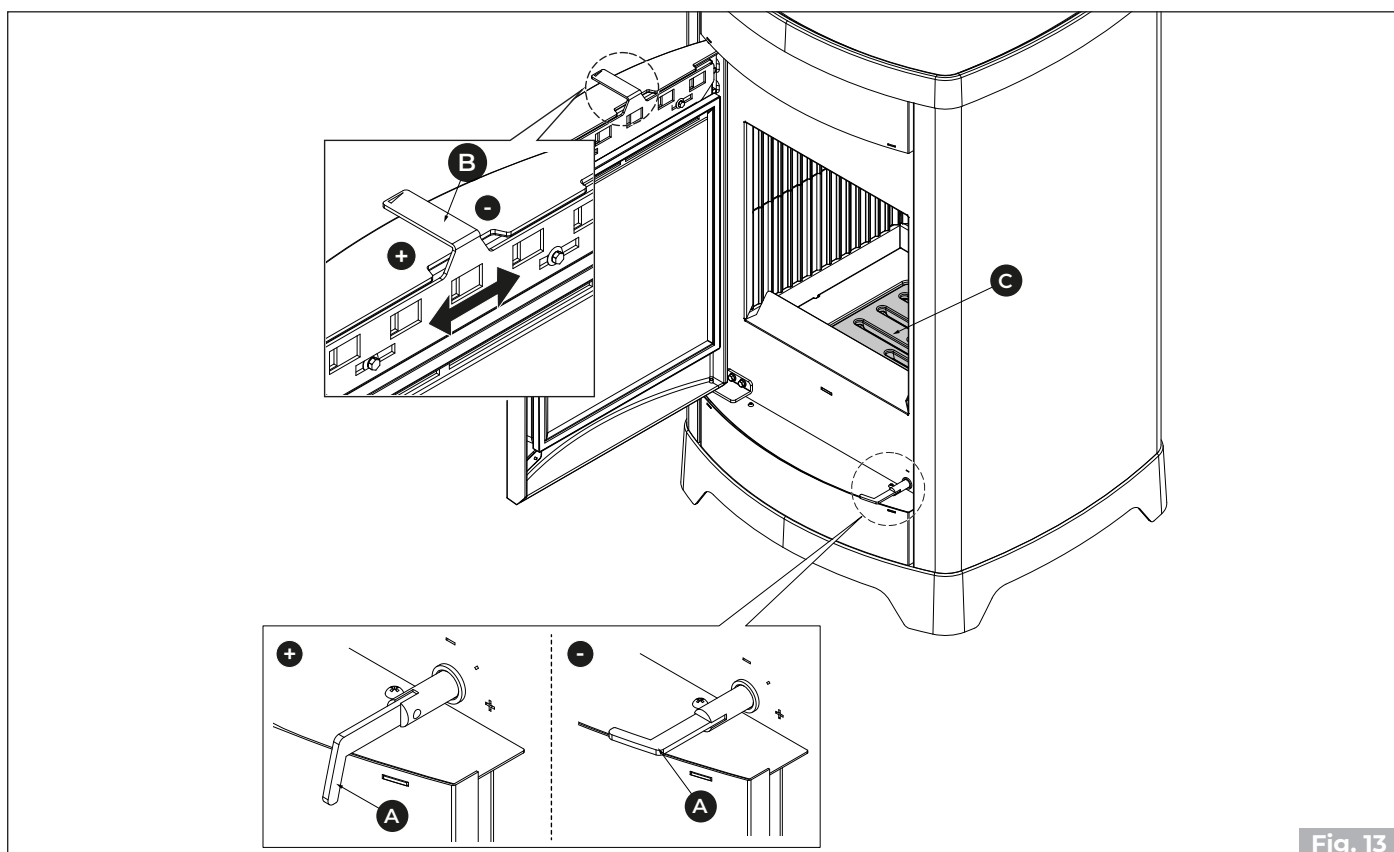

Fig. 13
- Carefully place the pieces of wood in fire box grate (**C**) (**Fig. 13**).
Combustion is adjusted using the air regulator (A) (Fig. 13). Turning it toward the symbols (+) or (-) a higher or lower flow of combustion air will be obtained and consequently a faster or slower combustion will result.